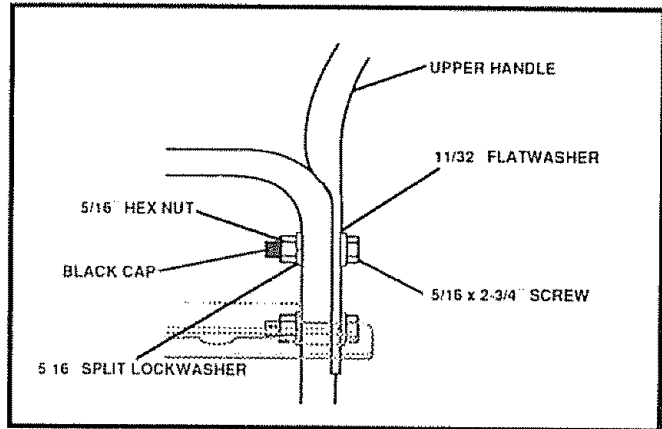

FIG. 4A
- Using the hardware (screws, flatwashers, lockwashers and hex nuts) removed from the shifter plate earlier, attach upper and lower handles in upper two holes (See Fig 4A) **Do not tighten**